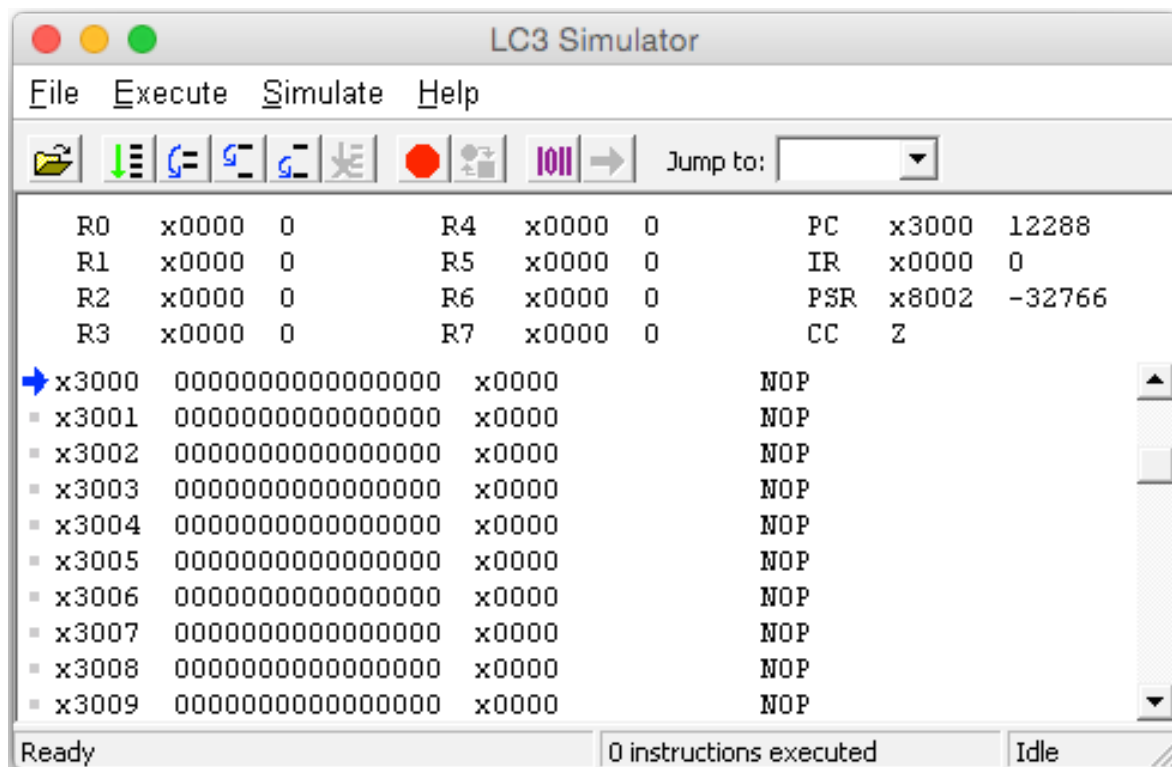

Figure 2: Freshly-Initialized LC-3 Simulator
- Figure 2 shows the initial display of the simulator. If you've been running a program and want to clean everything up, you can use *File → Reinitialize Machine* to get to Figure 2.